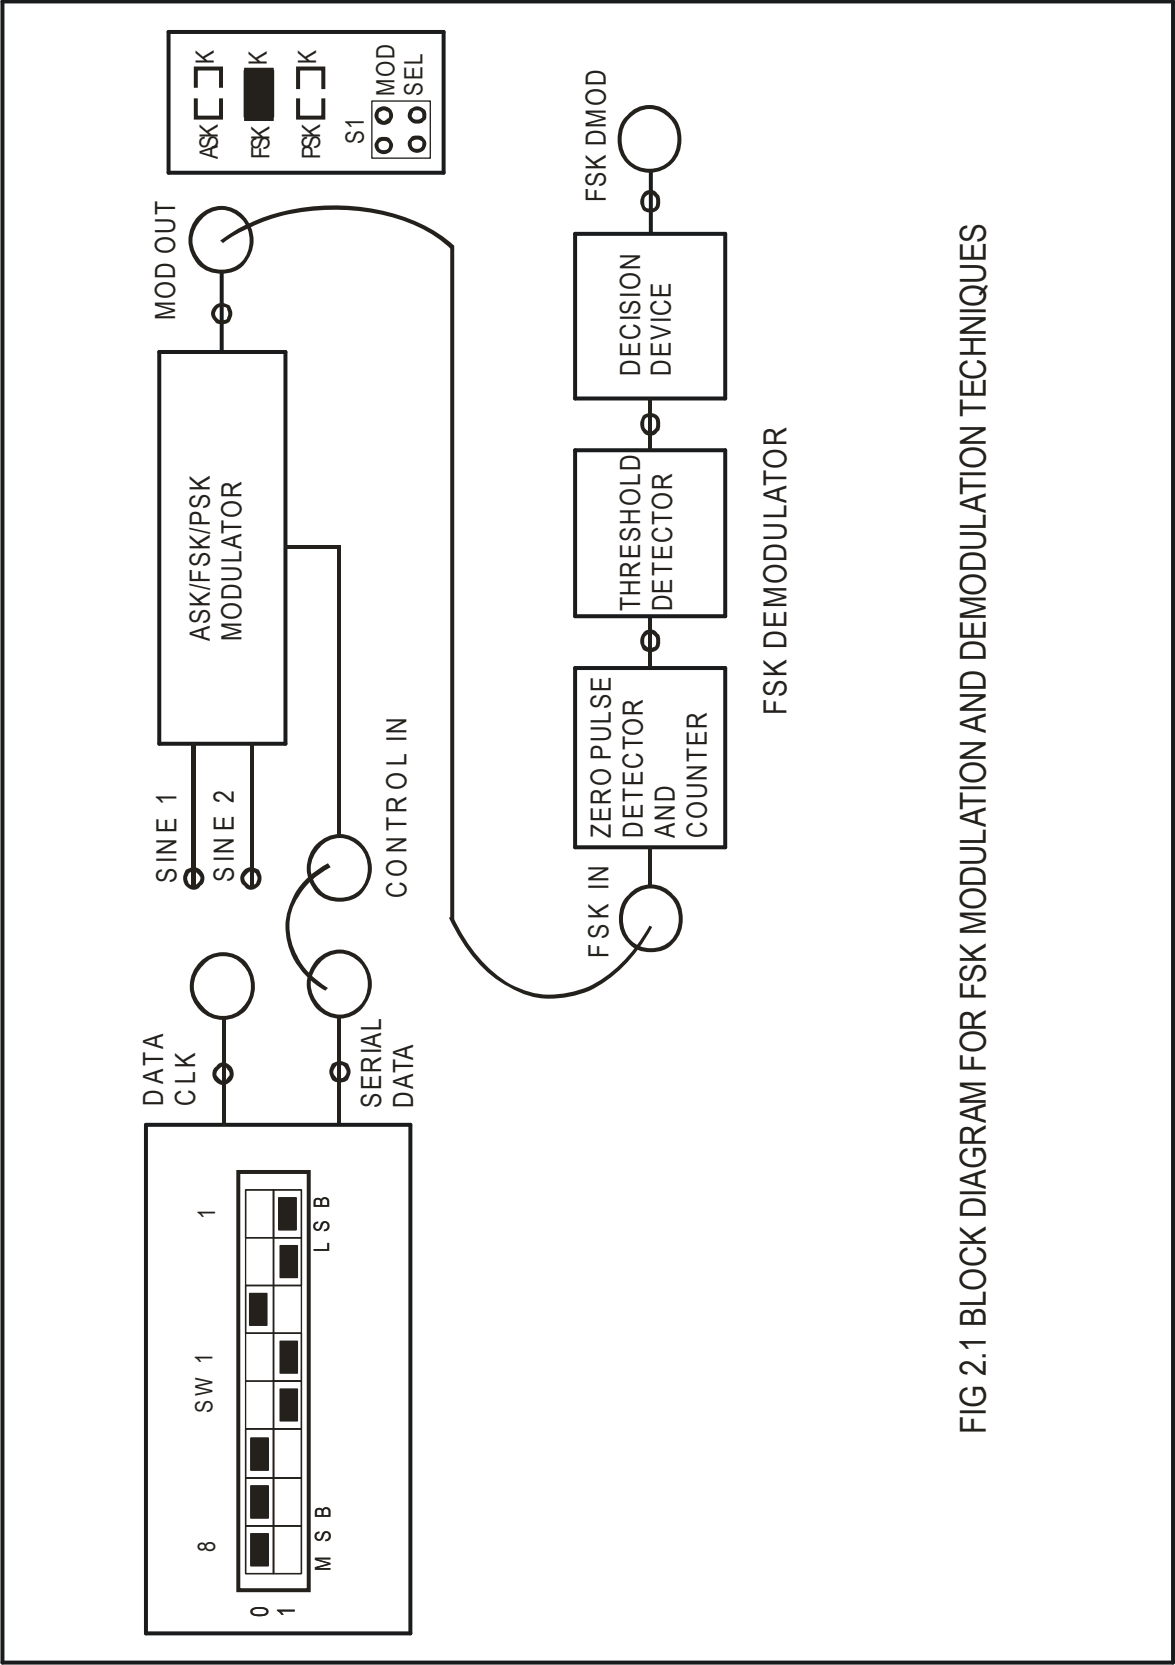

FIG 2.1 BLOCK DIAGRAM FOR FSK MODULATION AND DEMODULATION TECHNIQUES
1. Refer to the Fig. 2.1 and carry out the following connections and switch settings.